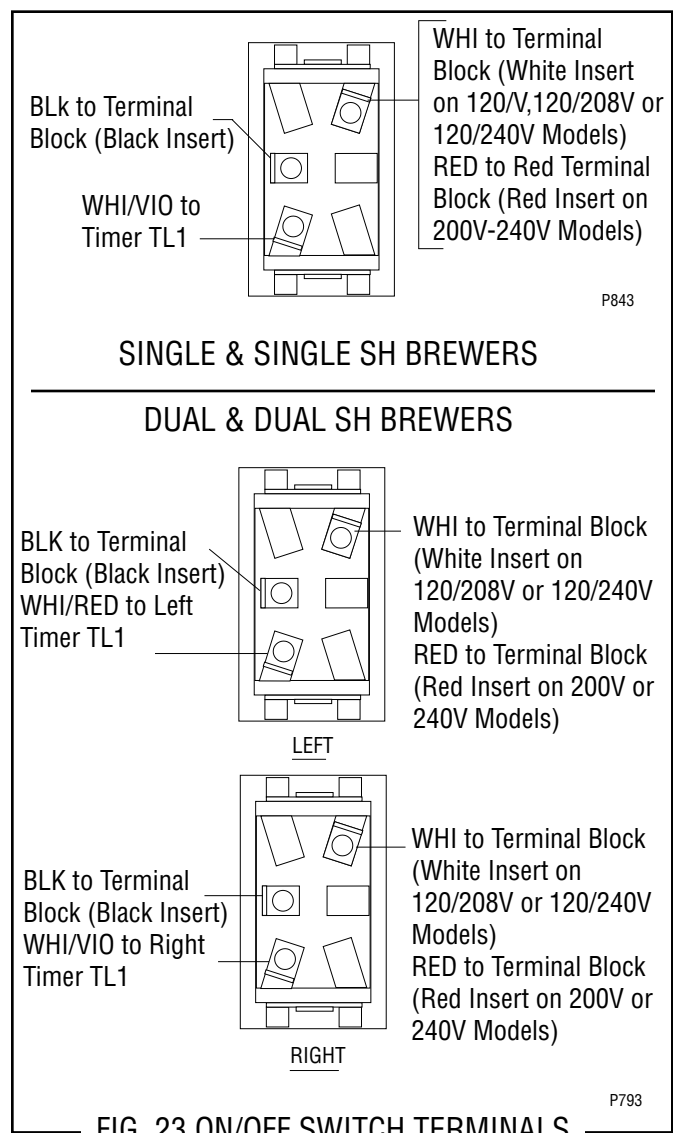

FIG. 23 ON/OFF SWITCH TERMINALS
4. Refer to Fig. 23 when reconnecting the wires.